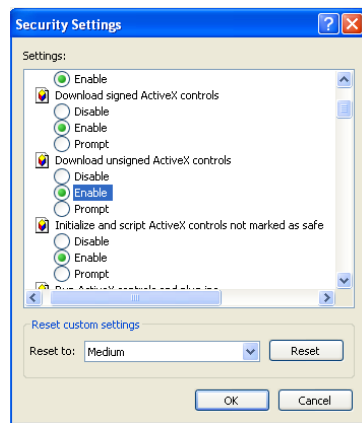

Fig 8-2
③ Enable all the sub options under “ActiveX controls and plug-ins”. Refer to Fig 8-2.
④ Then click Ok to finish setup.